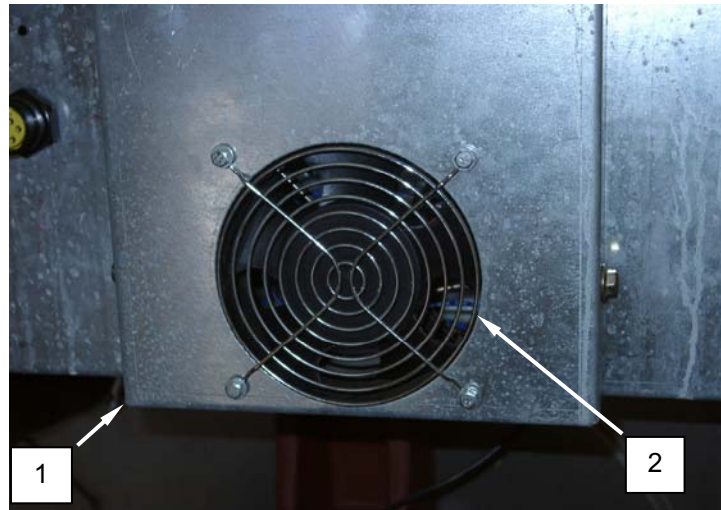

Figure 3. Replace the Washer Variable Frequency Drive.
2. Remove screws retaining inverter box cover (**Figure 3, Item 1**), and remove cover.
3. Tag and disconnect wiring from fan (**Figure 3, Item 2**).
5. Release tabs retaining inverter cover (**Figure 3, Item 4**), and remove cover.
9. Release tabs retaining inverter cover (**Figure 3, Item 4**), and remove cover.
11. Connect wiring to fan (**Figure 3, Item 2**).
12. Install inverter box cover (**Figure 3, Item 1**) and retain with screws.